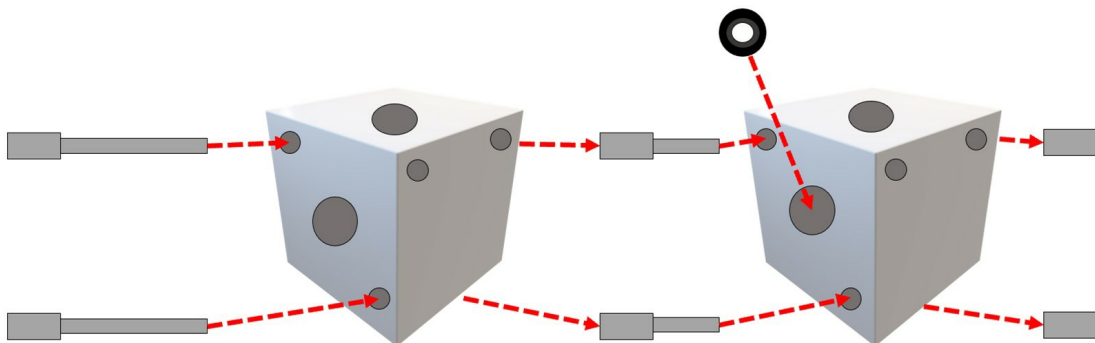

Figure 2. Connection of purge solenoid valve to the first solenoid valve
**4.3** Place the rubber o-ring in the larger opening of the solenoid valve (Figure 2) and then carefully place the first solenoid valve over the purge making sure to guide the screws through the holes on the first.